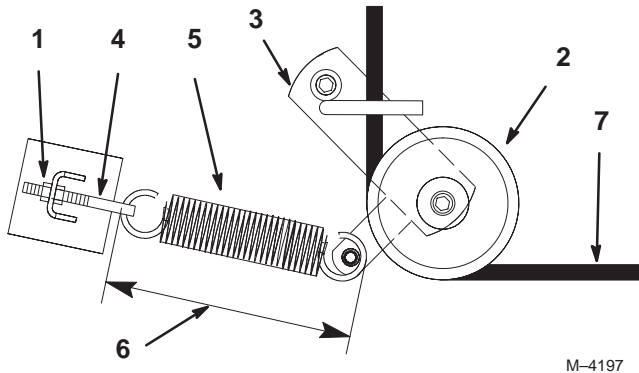

Figure 57
4. Loosen the outer nut on the spring eye bolt (Fig. 57).
6. Remove spring loaded idler pulley (Fig. 57).
7. Route the new belt through the idler arm (Fig. 57).
9. Tighten the outer nut on the spring eye bolt (Fig. 57).
Note: Check the spring length. The spring should measure 9-3/8 ± 1/8 inch (238 ± 3 mm) when installed. Adjust it if it does not (Fig. 57).